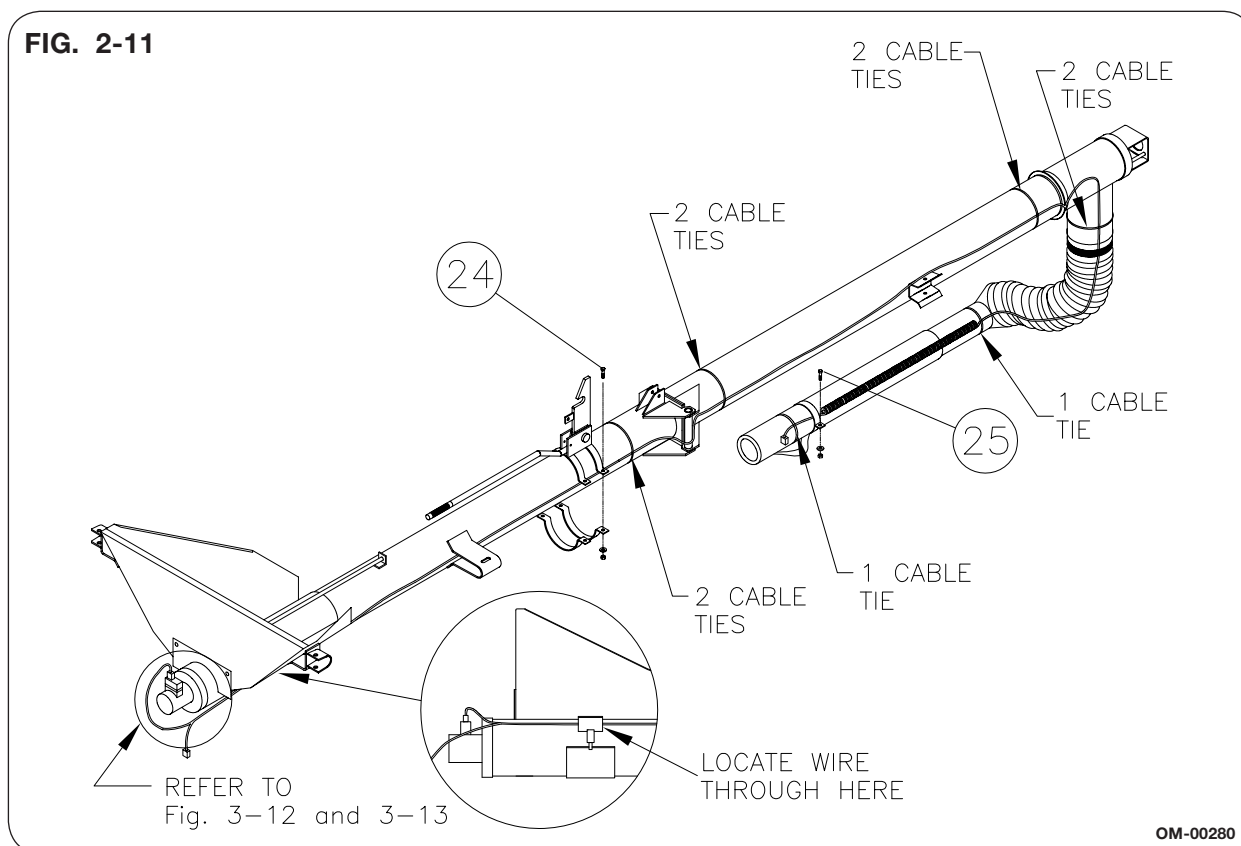

**FIG. 2-10**
21. Install the telescopic spout to the auger by loosening the clamp and sliding the flexible tubing over the auger spouting. Position approximately 2-3" over the auger spout and retighten the clamp (FIG. 2-10).